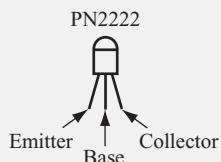

FIGURE 9.17
- One PN2222 transistor. Figure 9.17 shows the pinout diagram for PN2222 transistors.